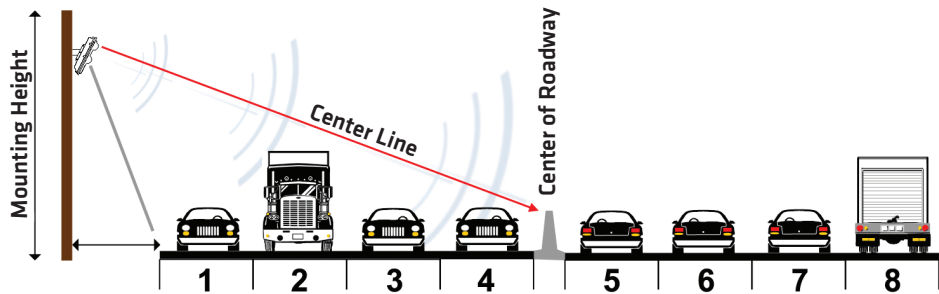

Figure 1.1 – Mounting and Aiming a SmartSensor V
After selecting a mounting location within the recommended range of offsets (see introduction), use Table 1.1 to select a mounting height. See Figure 1.1 for an illustration of what is meant by offset and mounting height.
- 1 Aim the front of the sensor at the center of the detection area. Refer to Figure 1.1 as an illustration of where to aim the sensor.